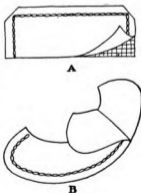

FIGURE 160
*Double Cuffs* (Figure 160). — These are cut the desired length and width, plus  $\frac{1}{4}$  inch for seam allowance, from two thicknesses of fabric. In double cuffs there may be a contrast of material as well as color. Place the two right sides of the fabric together and cut the cuff. Straight band cuffs may be cut with the top on the lengthwise fold. Place the two right sides of the cuff together, and pin and baste  $\frac{1}{4}$  inch from the edge. Stitch on the line of basting. Clip the corners, remove the bastings, and